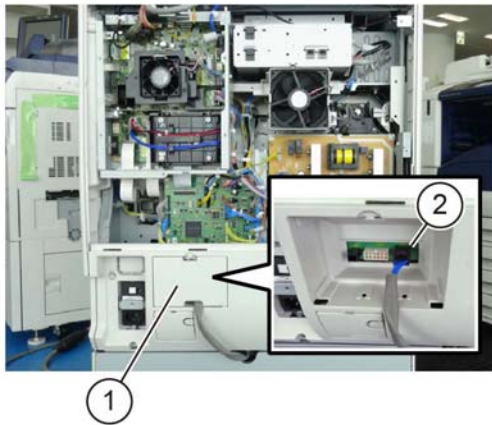

Figure 1 Connector
3. Remove the cover (1), disconnect all connectors (2), Figure 1.